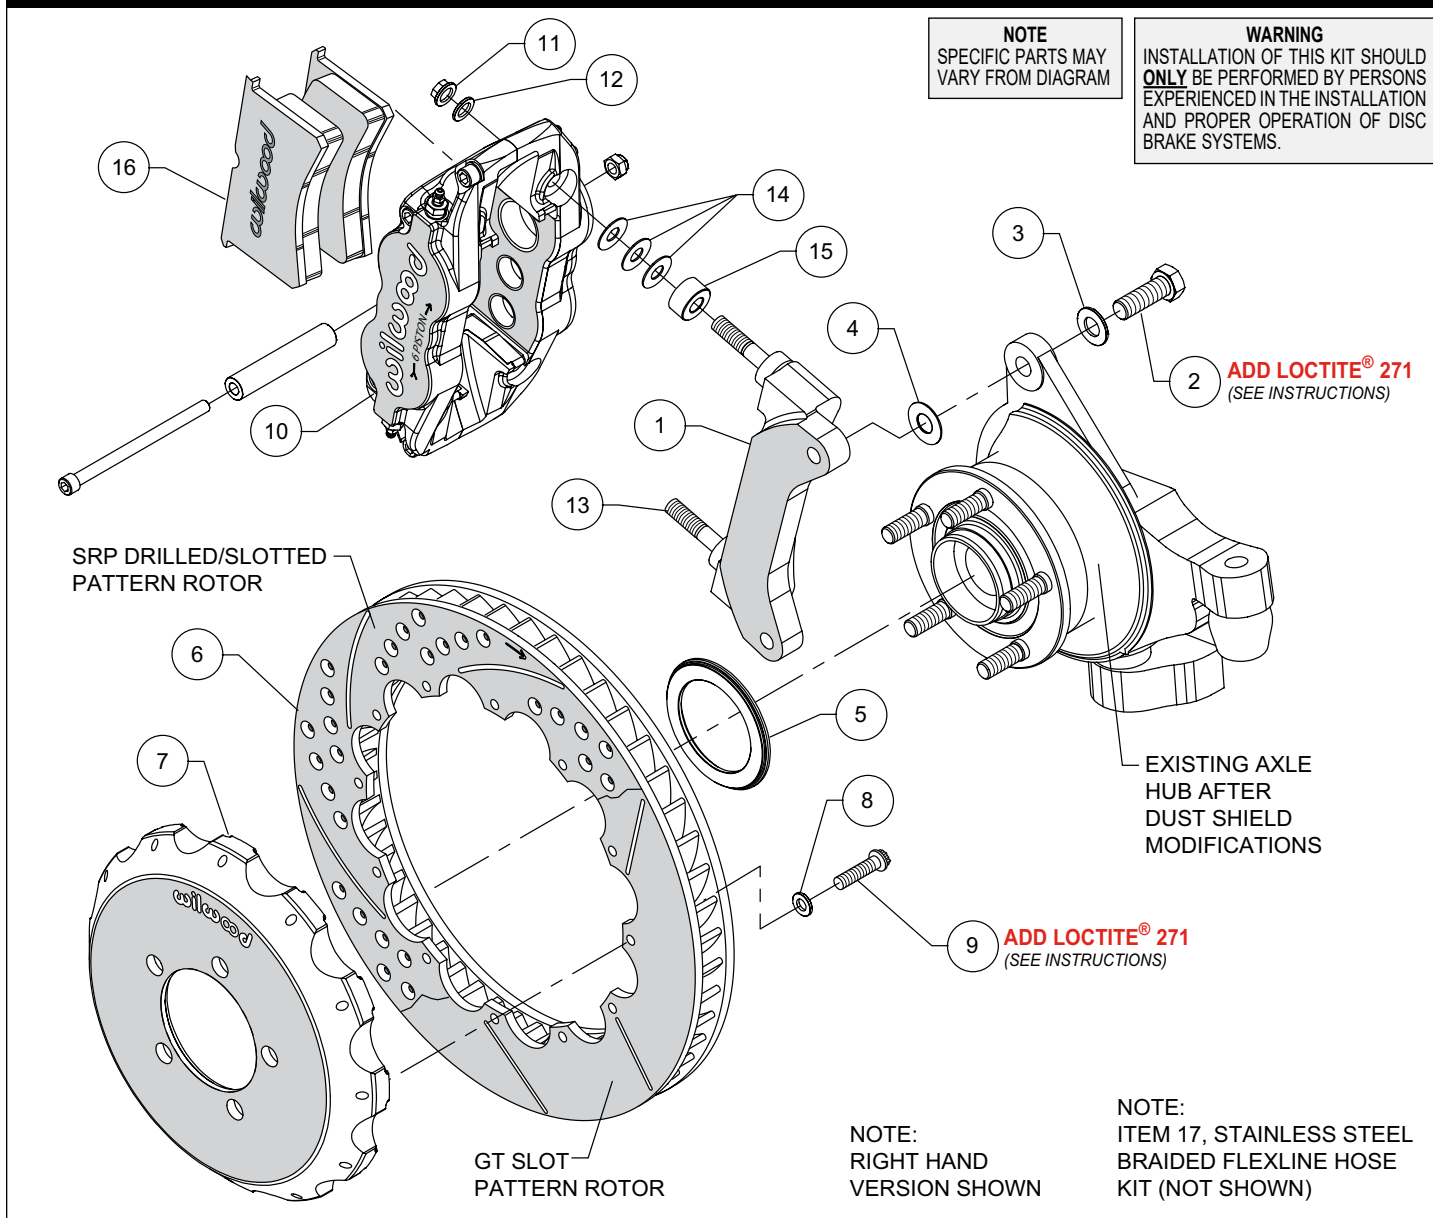
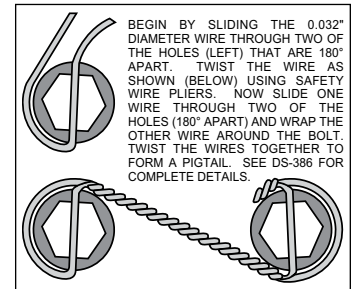

Figure 1. Typical Installation Configuration
Figure 4. Safety Wire Diagram
**Assembly Instructions** (numbers in parenthesis refer to the parts list and Figure 1 on the preceding pages):
- The caliper mount bracket (1) should initially be installed with clean, dry threads on the mounting bolts. Orient the bracket as shown in Figure 1, and install using washers (3) and bolts (2). Initially place one shim (4) on each bolt between the bracket and upright, Figure 1. Temporarily tighten the mounting bolts. **NOTE:** The bracket must fit squarely against the mount bosses on the upright. Inspect for interference from casting irregularities, machining ridges, burrs, etc. Later, after the caliper alignment has been checked, the mount bolts will be secured using red *Loctite*® 271.
- Orient the rotor (6) and the hat (7) as shown in Figure 1 and Photo 1. Attach rotor to hat using bolts (9) and washers (8). Apply red *Loctite*® 271 to the bolt threads and torque to 155 in-lb using a criss-cross pattern. For an added measure of security, the bolts may be safety wired using standard 0.032 inch diameter stainless steel safety wire as shown in Figure 4. Please refer to Wilwood's data sheet DS-386 (available at [www.wilwood.com/Pdf/DataSheets/ds386.pdf](http://www.wilwood.com/Pdf/DataSheets/ds386.pdf)) for complete safety wire installation instructions.
- NOTE:** This kit contains distinct right and left hand calipers that must be mounted in a specific direction, as described below. Initially place three .035" thick shims (14) and spacer (15) on each stud (13) as shown in Figure 1 and Photo 3. Mount the caliper (10) onto the bracket (1) using lock nuts (11) and washers (12), Figure 1. Ensure that the caliper is mounted so that the largest pistons are at the rotor exit end of the caliper, in relation to the direction of rotor rotation. Temporarily tighten the lock nuts and view the rotor through the top opening of the caliper. The rotor should be centered in the caliper, Photo 4. If not, adjust by adding or subtracting shims (4) between the bracket and the upright. Always use the same amount of shims on each of the two mounting bolts. Once the caliper alignment is correct, remove the bracket mounting bolts (2) one at a time, apply red *Loctite*® 271 to the threads, and torque to 60 ft-lb.